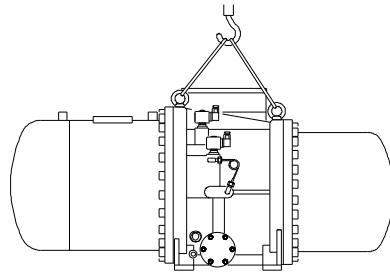
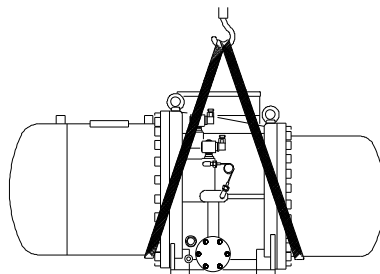

Figure 1.1 Lifting the compressor with steel rope
Figure 1.2 Lifting the compressor with 2 safety ropes
- a. Use Steel Ropes and eyebolts on top of the compressor to lift the compressor, see Figure 1.1. Figure 1.2 shows another way of using Safety Ropes. Any used rope should be capable to carry up the weight of at least 2 tons.
- b. In case there are no available eyebolts, then use 2 safety ropes with a minimum capacity of 2000 kgf loading available to lift the compressor. Refer to Figure 1.2. Shown below.